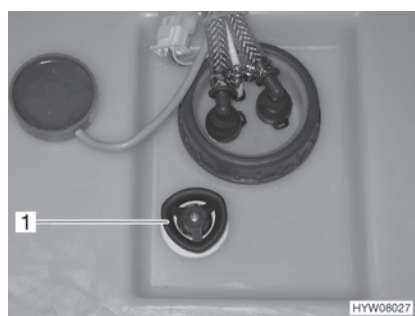

Fig. 134 Water tank with rotary handle
- Turn the rotary handle (Fig. 134,1) on the water tank in a clockwise direction as far as it will go.
- Turn the rotary handle (Fig. 134,1) on the water tank in an anticlockwise direction as far as it will go. Excess water will drain away leaving approx. 20 litres in the tank.